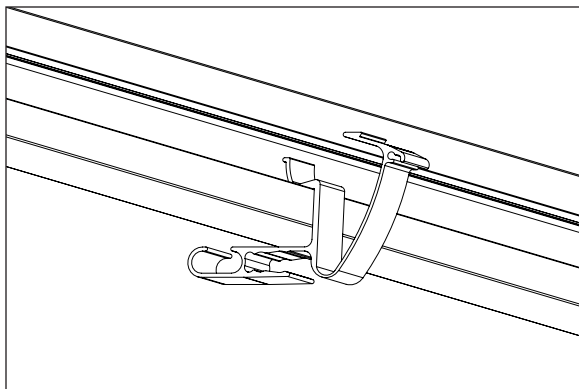

Figure 5.6A
2. Use Zep Wire Clips to properly manage series and home run wires while protecting them from damage. Insert the Zep Wire Clip into the Module groove (Figure 5.6A) then lay the conductors